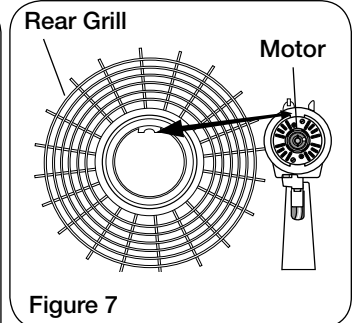

Figure 7
- Tilt Head Assembly back. Put Rear Grill on Motor (Figure 7). Align tab of Plastic Rear Grill with groove on top of front Motor cover.